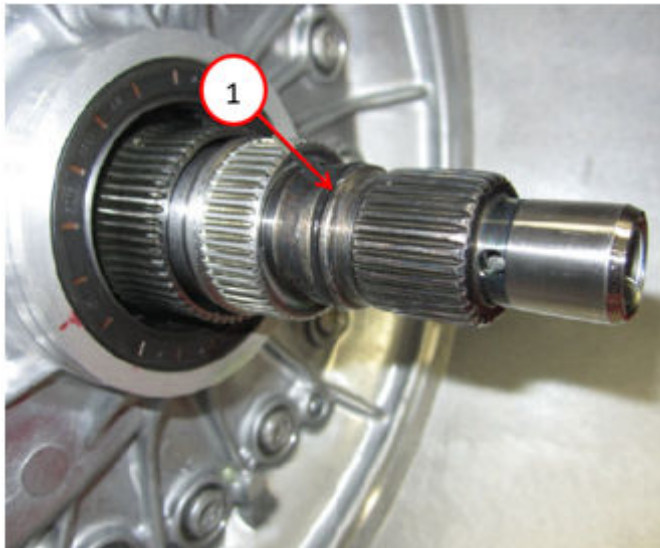

Fig. 14
21. Remove and discard the oil pump housing bolts Fig. 14.